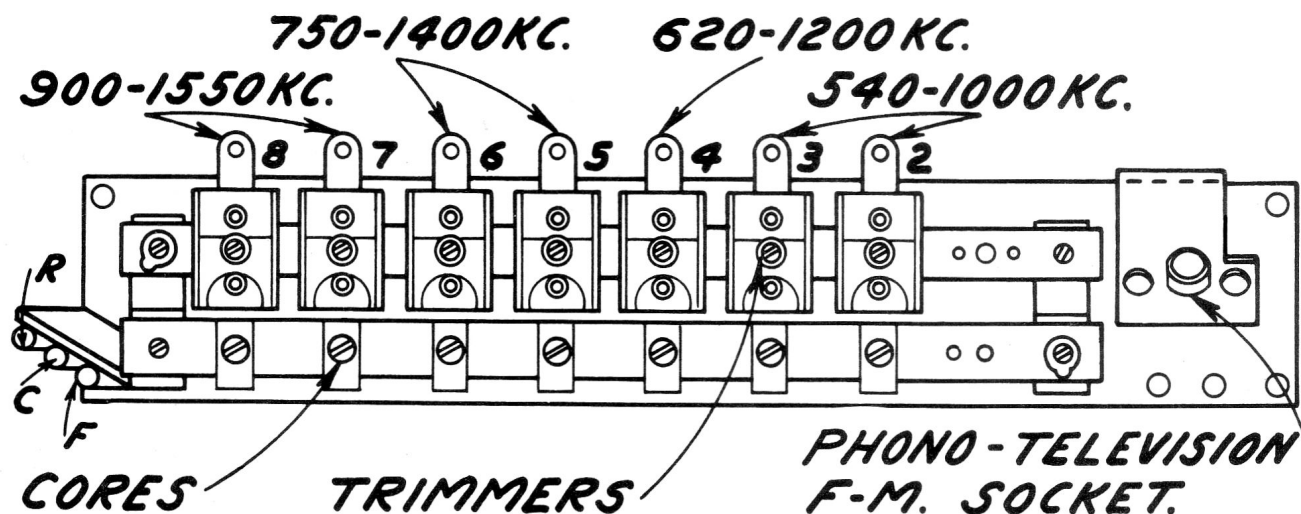

Fig. 1
(1) Turn "Range selector" to "A" position and manually tune in the first station, say 560 k.c.
(2) Turn "Range selector" to "P.B." position, press button No. 2 located second from left on front panel.
(3) Referring to Figure 1, adjust core and padder No. 2 for a peak at 560 k.c. This adjustment can be made with the assistance of the "Magic Eye".
(4) Proceed to adjust the other six stations in order of frequency, as outlined above.